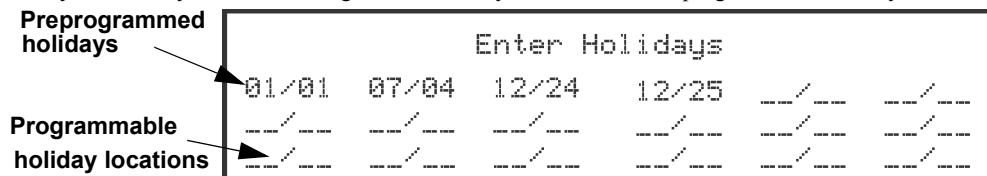

Figure 9.13 Edit Holidays Screen
4. Select 3 for Holiday Days. A screen similar to that shown in Figure 9.13 will display.